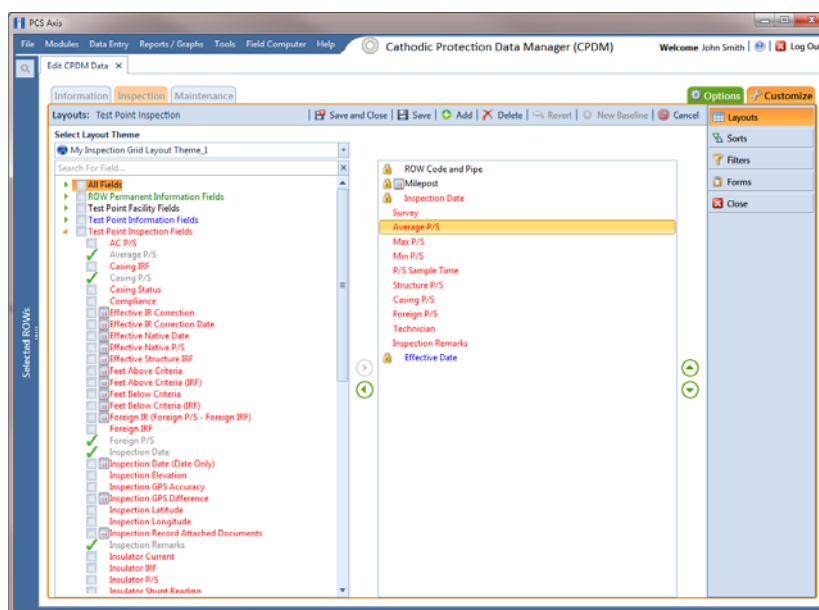

Figure 7-16. Layouts
- 4 Double-click **Test Point Inspection Fields** in the left pane of the window to view a list of fields available for selection (Figure 7-16, page 298).